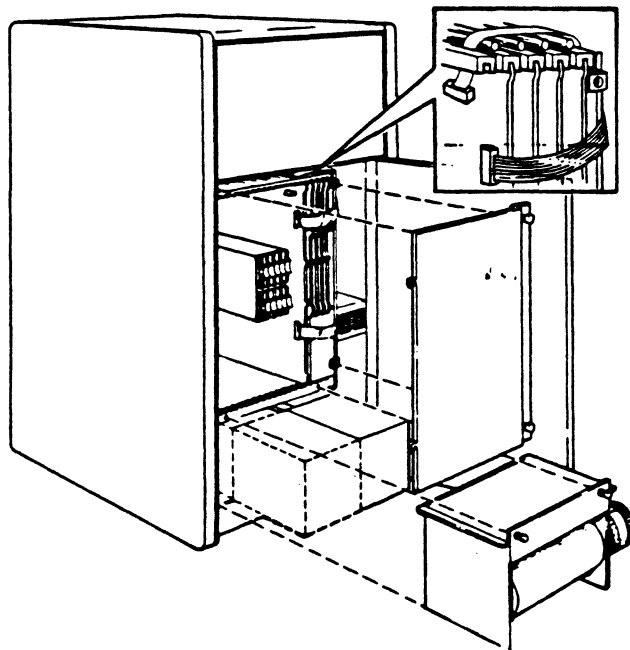

FIGURE 2-24 CABINET SPC CABLE ROUTING
2. All SPC cables that plug into connectors mounted on the front edge of the module, are routed toward the right side of the card cage as shown in Figure 2-24.